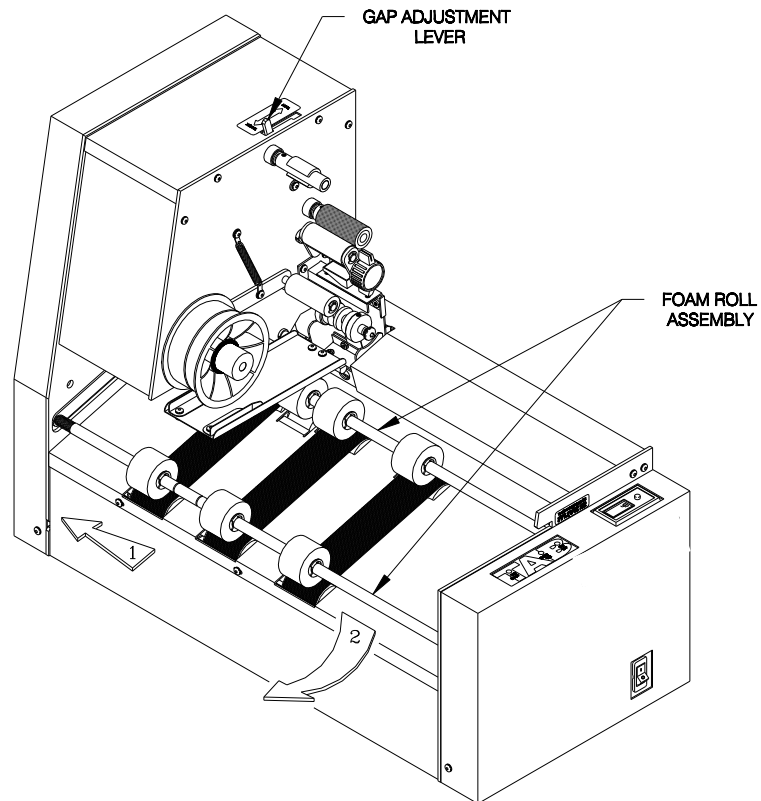

Figure 9.2 – Clearing Jammed Mail Pieces
4. Set the GAP ADJUSTMENT LEVER to **thick**, if it is set for **thin**. (Refer to **Figure 9.2**.)
5. Push the FOAM ROLL ASSEMBLY toward the end with the spring attached. Pull out the other end, as you push in the spring end. Make sure the other end clears the side frame. (Refer to **Figure 9.2**.)
7. Push the spring-loaded end of the FOAM ROLL ASSEMBLY in its hole in the non-operator side panel. Place the other end of the FOAM ROLL ASSEMBLY into the d-hole in the operator side frame. (Refer to **Figure 9.2**.)